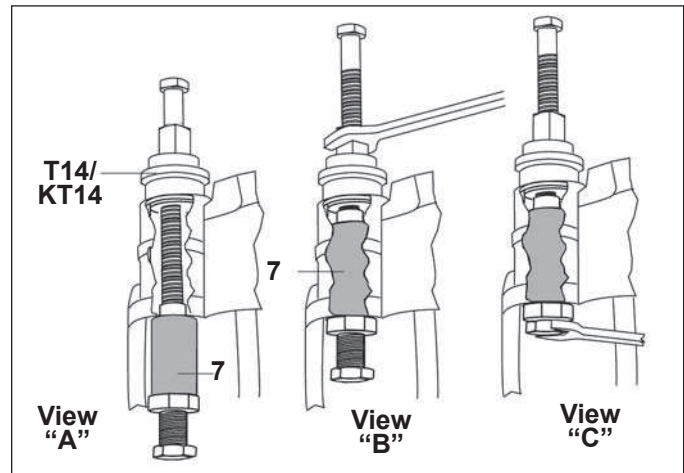

FIGURE 77 - VIEW "A" AND "B": DRAW THE BRASS BUSHING INTO POSITION. VIEW "C": LOCK THE BUSHING INTO POSITION
5.6.22 With the dimpling tool (T16) in position, tighten the screw in its base until it contacts the dimpling screw housing. The movement of this screw forces three points outwards, leaving indentations in the brass bushing. See *Figure 77*, view "C".